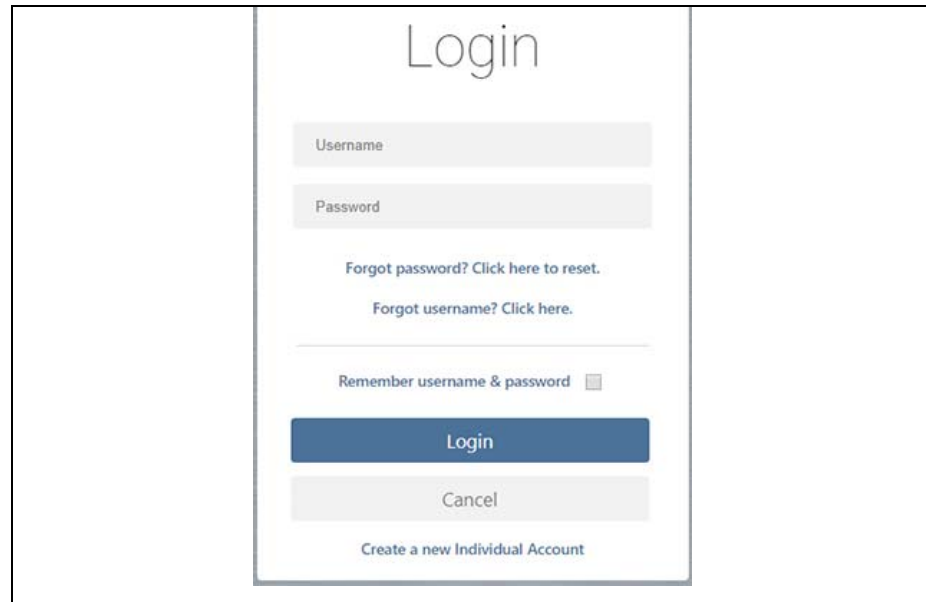

Figure 13-5
3. Log in using your **Username** and **Password** (Figure 13-5).